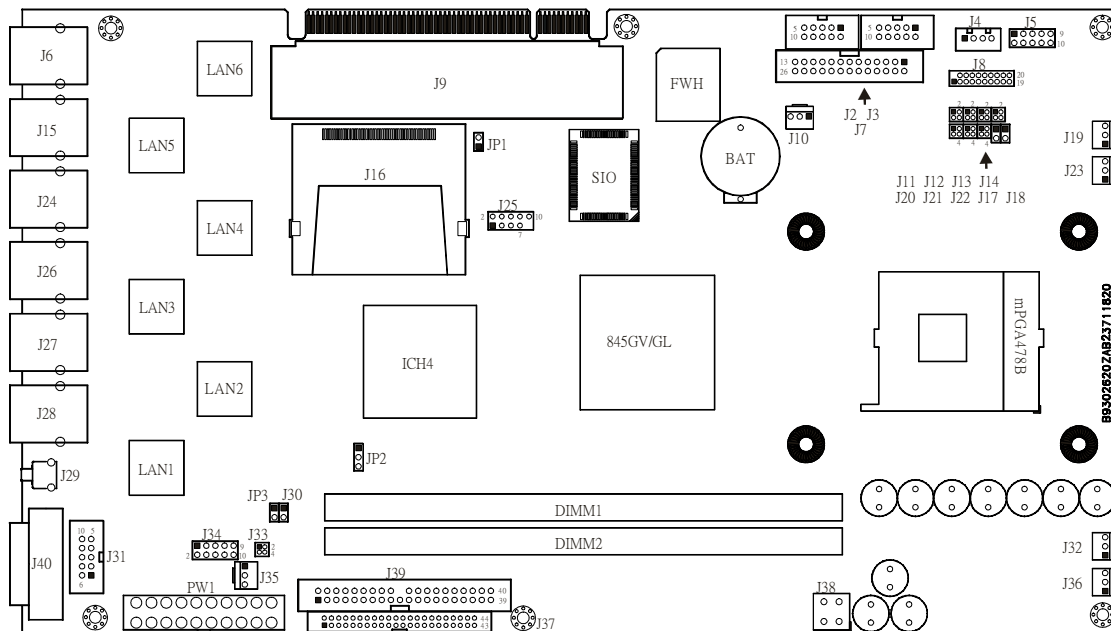

Fig.2-10 PPAP-3711VL Jumper Locations
In general, jumpers on the single board computer are used to select options for certain features. Some of the jumpers are user-configurable, which allows system enhancement. The others are for testing purpose only and should not be altered. To select any option, cover the jumper cap over (Short) or remove (NC) it from the jumper pins according to the following instructions. Here NC stands for "Not Connected". (Please refer to **Fig. 2-10** for detail jumper positions)